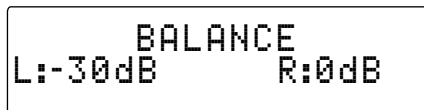

Figure 57
2. Press and release the  Push-button on the Remote Control to decrease the volume level of the Left Channel in one decibel increments (up to -30dB) “BALANCE, L:-30dB R:0dB” appears on the Front Panel Display. Refer to figures 57 and 58.